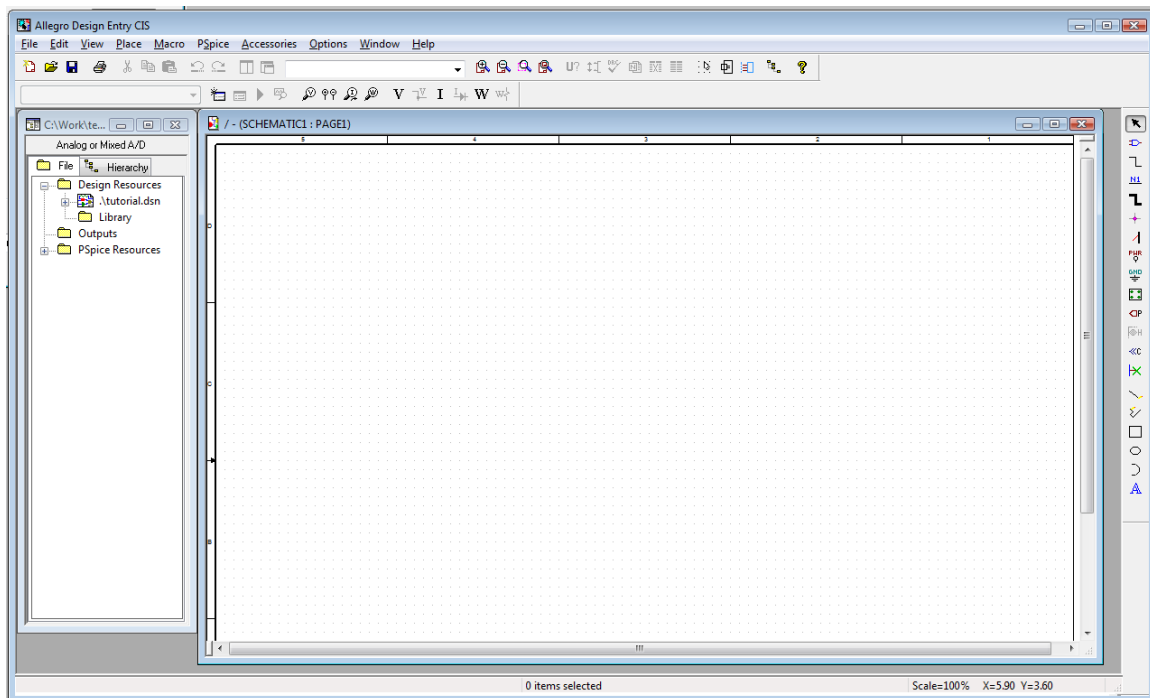

Figure 4
1. clicking on “capture” (**NOTE** use “schematics” in the student version of PSPICE which will take you directly to a window equivalent to Figure 4) in the program group. The opening screen should look something like this (it may take a while...):
4. Another window will pop-up, select “Create a blank project” and click OK. This will create a schematic window in Figure 4 where the circuits are created.